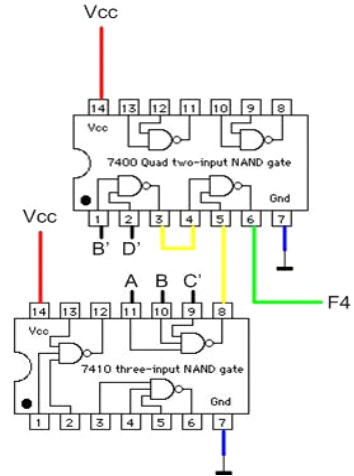

Figure 10. Layout Diagram
- Draw a Layout diagram giving the relative position of the chips on the breadboard. (figure 10)